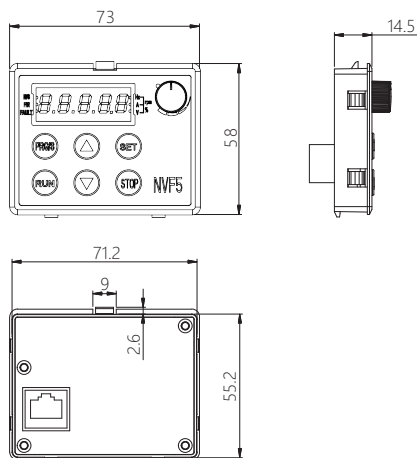
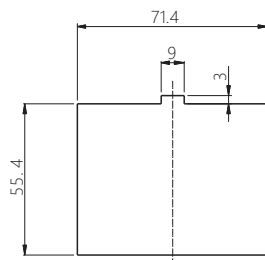

Figure 6-3 Dimensional drawing of display
Figure 6-4 Cabinet door perforating dimensions
- a) For first option, the direct installation dimensions of the display are shown in Figure 6-3 and Figure 6-4: